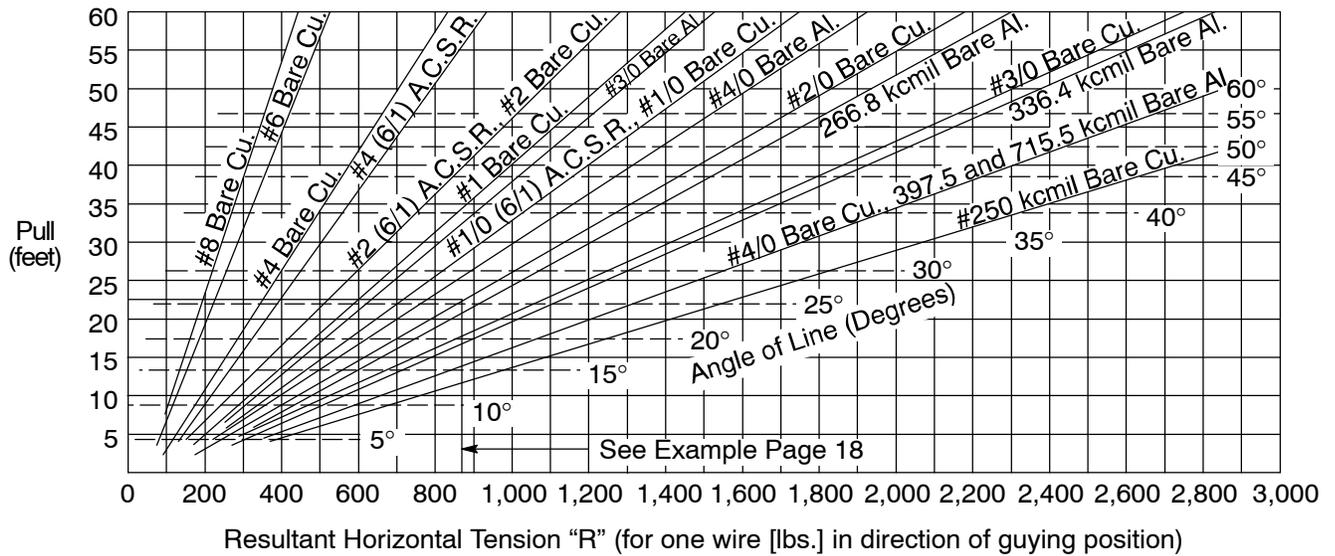
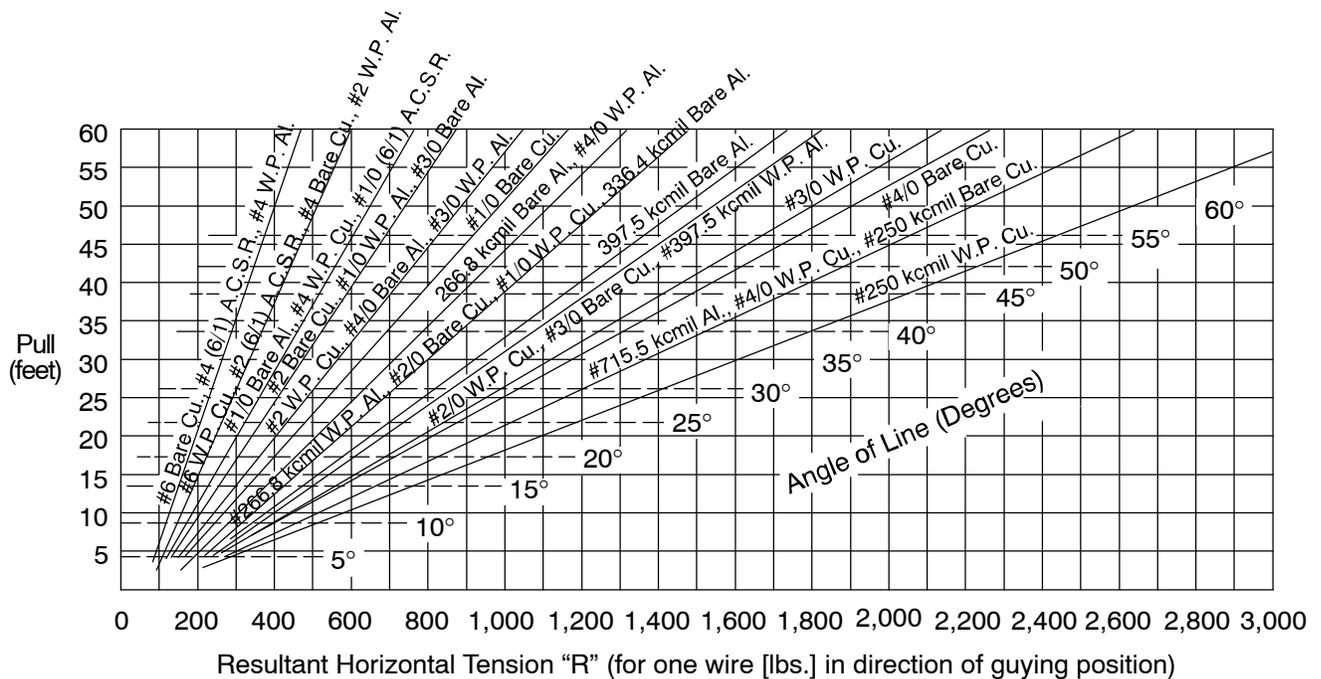
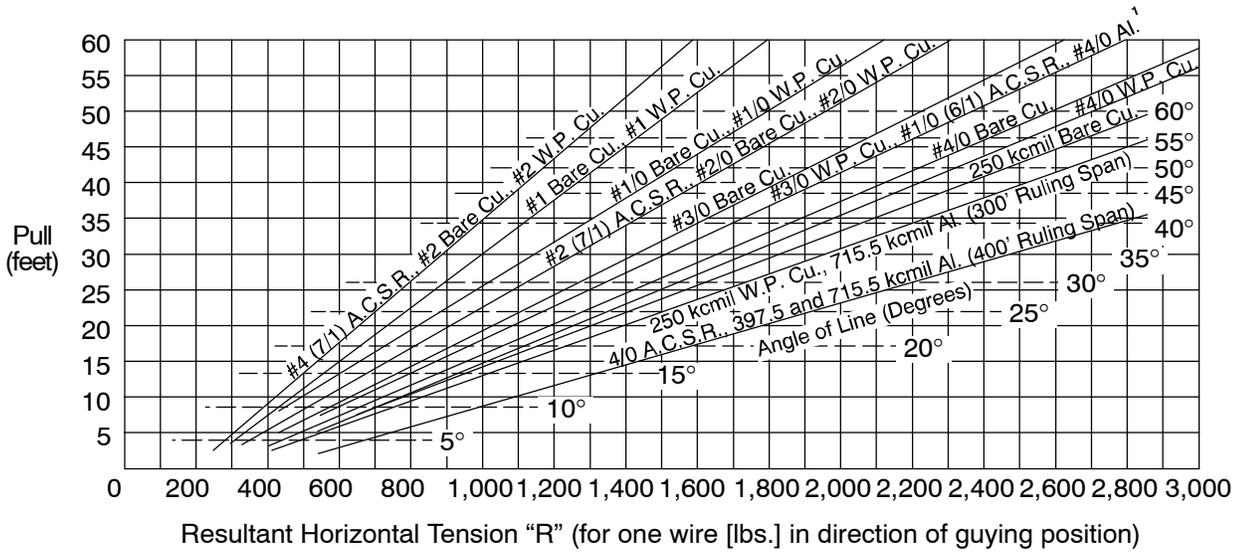

Figure 38
Figure 39
Figure 40
- For a dead-end guy, the resultant tension T is the maximum conductor tension times the number of conductors. Maximum conductor tensions are listed in Document 015221 (Document 057877 for aerial cable). For convenience, maximum conductor tensions for standard sizes are also listed in Table 8 on Page 17. For side guys, the resultant tension T is the sum of the individual side strains. Use Figure 38 and Figure 39 on Page 19 and Figure 40 on Page 20, or the formula shown in Note 4B below.
Figure 38 – Figure 41 on Pages 19 through 20 are provided for convenience in calculating tensions on the pole and in the guy. These charts have assumptions built in for span lengths and for the distance the guy is attached below the conductor. For average construction, these charts should give slightly conservative answers.
From Figure 38 on Page 19 (see line marked example)
¹ 4/0 Al. is listed in Figure 40 for use in the intermediate loading district only.